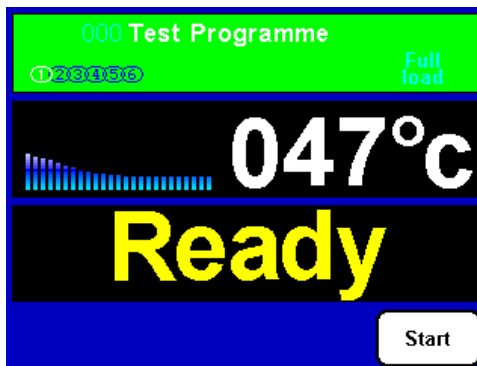

FIG 4
5. When oven is ready, the following screen will appear (fig 4). Load product and press start (4)